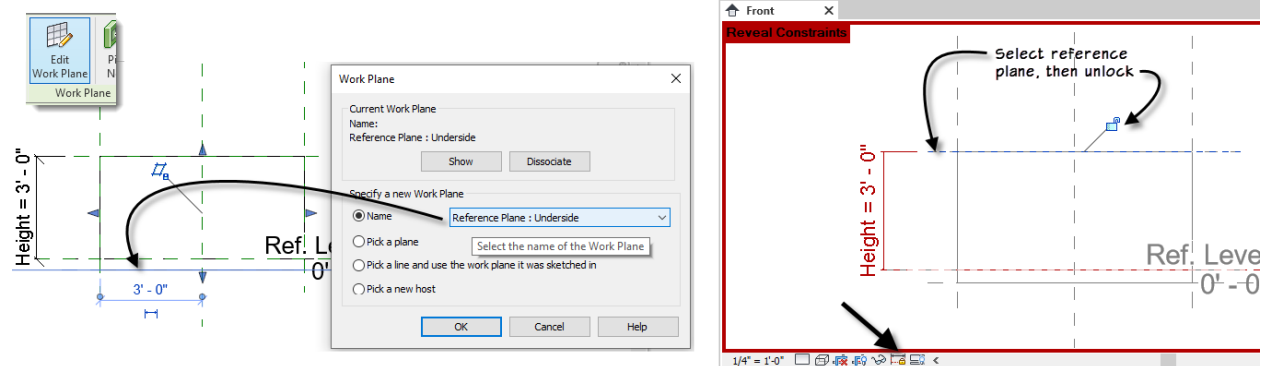

Figure 14
3. Select the Extrusion. On the ribbon, click the Edit Work Plane button. From the Name list, choose: **Reference Plane: Underside** and then click OK (see the left side of Figure 14).
5. Click the Top reference plane and then unlock the padlock icon (see the right of Figure 14).